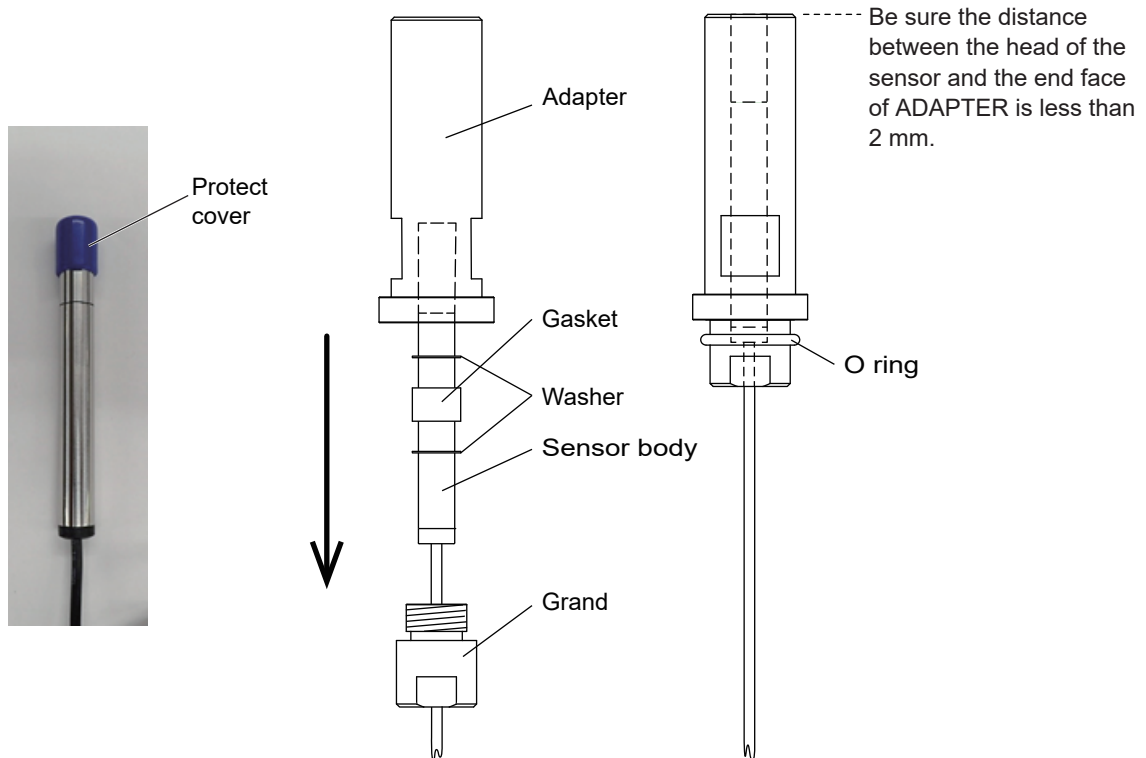

Figure 3.2 Adapter Installation on the sensor
- (1) Pass GLAND from the cable side and place the bottom of the sensor on GLAND as shown in the posture of the Figure 3.2.
- (2) Remove the protective cover put on the head of the sensor. Pass WASHER, GASKET, WASHER, ADAPTER from the head of the sensor side.